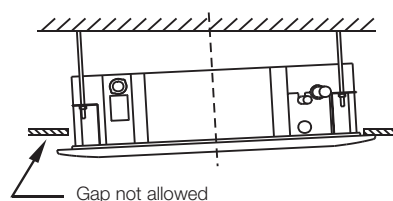

Fig.4-18
- 4) If the gap between the panel and ceiling still exists after fastening the screws, the height of the indoor unit should be modified again. (Refer to Fig.4-18).